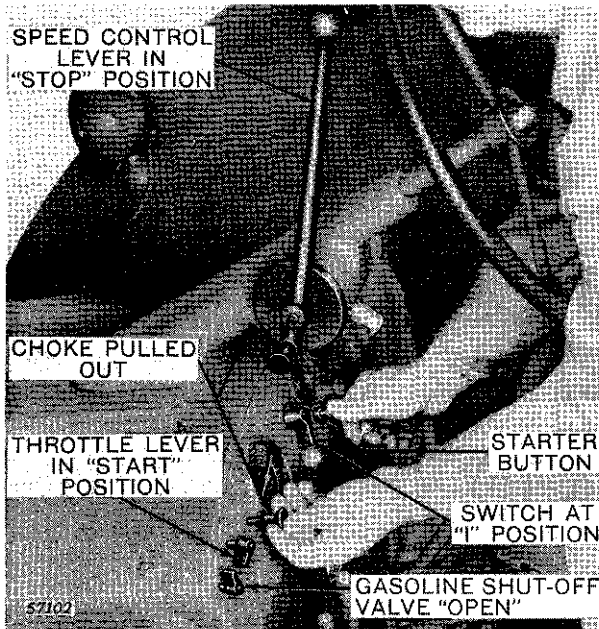

Figure 10-10-1—Starting the Cranking Engine
- (1) Set gear shift lever in neutral and pull the diesel engine clutch lever to the disengaged position.
- (2) In cold weather disengage the Powr-Trol pump to relieve drag on the engine caused by cold oil.
- (3) Make sure that the fuel shut-off valve, located underneath the main fuel tank is open.
- (4) See that the diesel engine speed control lever (Figure 10-10-1) is in the **stopped** position (all the way to the rear) with the stop button pulled out. The lever **must** be in this position.
- (1) Open the gasoline shut-off valve two or three turns by turning the handle counter-clockwise (Figure 10-10-1).
- (2) See that the cranking engine throttle lever is turned counter-clockwise to the "start" position.
- (3) Turn the ignition switch to the "I" position (red light on).
- (4) In cold weather pull out on the choke control knob. The engine will not continue to run with the choke in this position; therefore, when the engine starts, push the choke control knob in. It is not always necessary to choke the engine.
- (5) Push the "starter" button. Release the button when the engine begins to run.